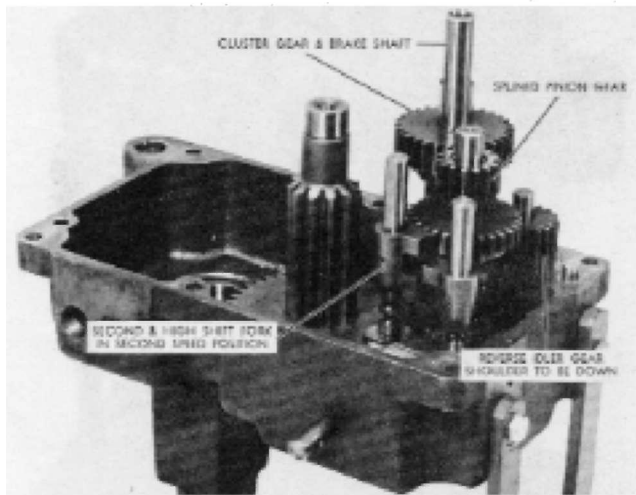

FIGURE 3
11. Shift the 2nd and high shift fork assembly into the 2nd speed position. See Figure 3.